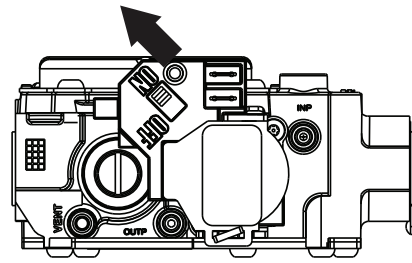

Fig. 8 – Control Switch to ON
7. Turn the control switch to ON, see Fig. 8.